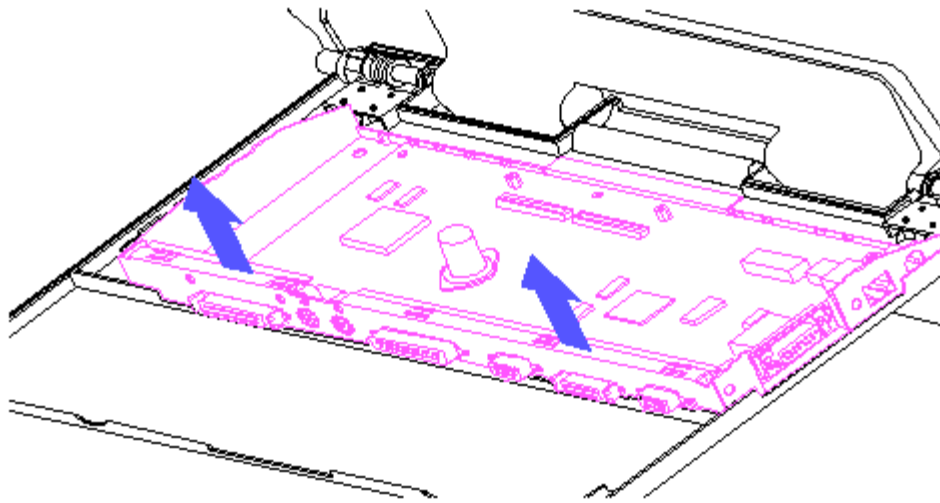

Figure 4-20. Removing the Interface Board
6. Lift the interface board, with pan attached, out of base (Figure 4-20).